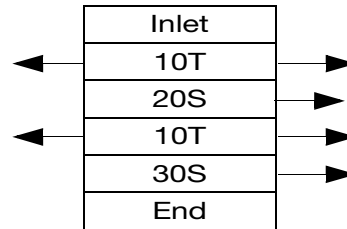

FIG. 15
- a. Before disassembling any divider valve, make a sketch noting the arrangement of the Valve Sections. For example: INLET 10T - 20S - 10T - 30S - END (FIG. 15). Only remove the end plugs. Try to move each piston back and forth without removing the piston from the valve section.